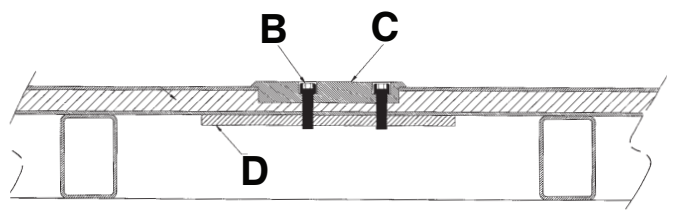

Figure 17 – Anchor wall plate into recessed openings
- Using two 3/8 in. diameter socket head cap screws (B) (not supplied), preferably grade 8, anchor each floor plate (C) into the recessed openings with the counter-bored holes facing up (Figure 17).
Note - A steel backing plate (or equivalent) (D) (not supplied) is required for added support (Figure 17).